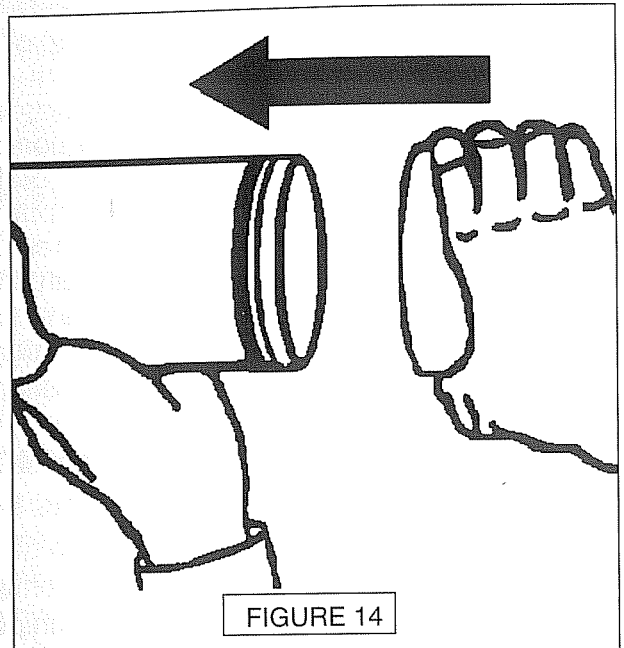

FIGURE 14
Step 4. Push the fitting and pipe straight together to the bottom of the fitting socket. **DO NOT TWIST.** See Figure 14 on page 12.